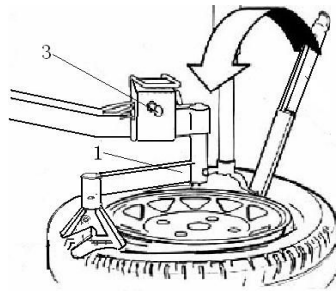

Fig 20
c-Raise the help arm, mount the tyre pressing head (upper) on the tyre pressing arm (8) and rotate it to the opposite side of the mounting head. Press the tyre with the switch handle to create enough space; hang the bead on the demount/mount head with the help of the lifting lever(Fig.20).